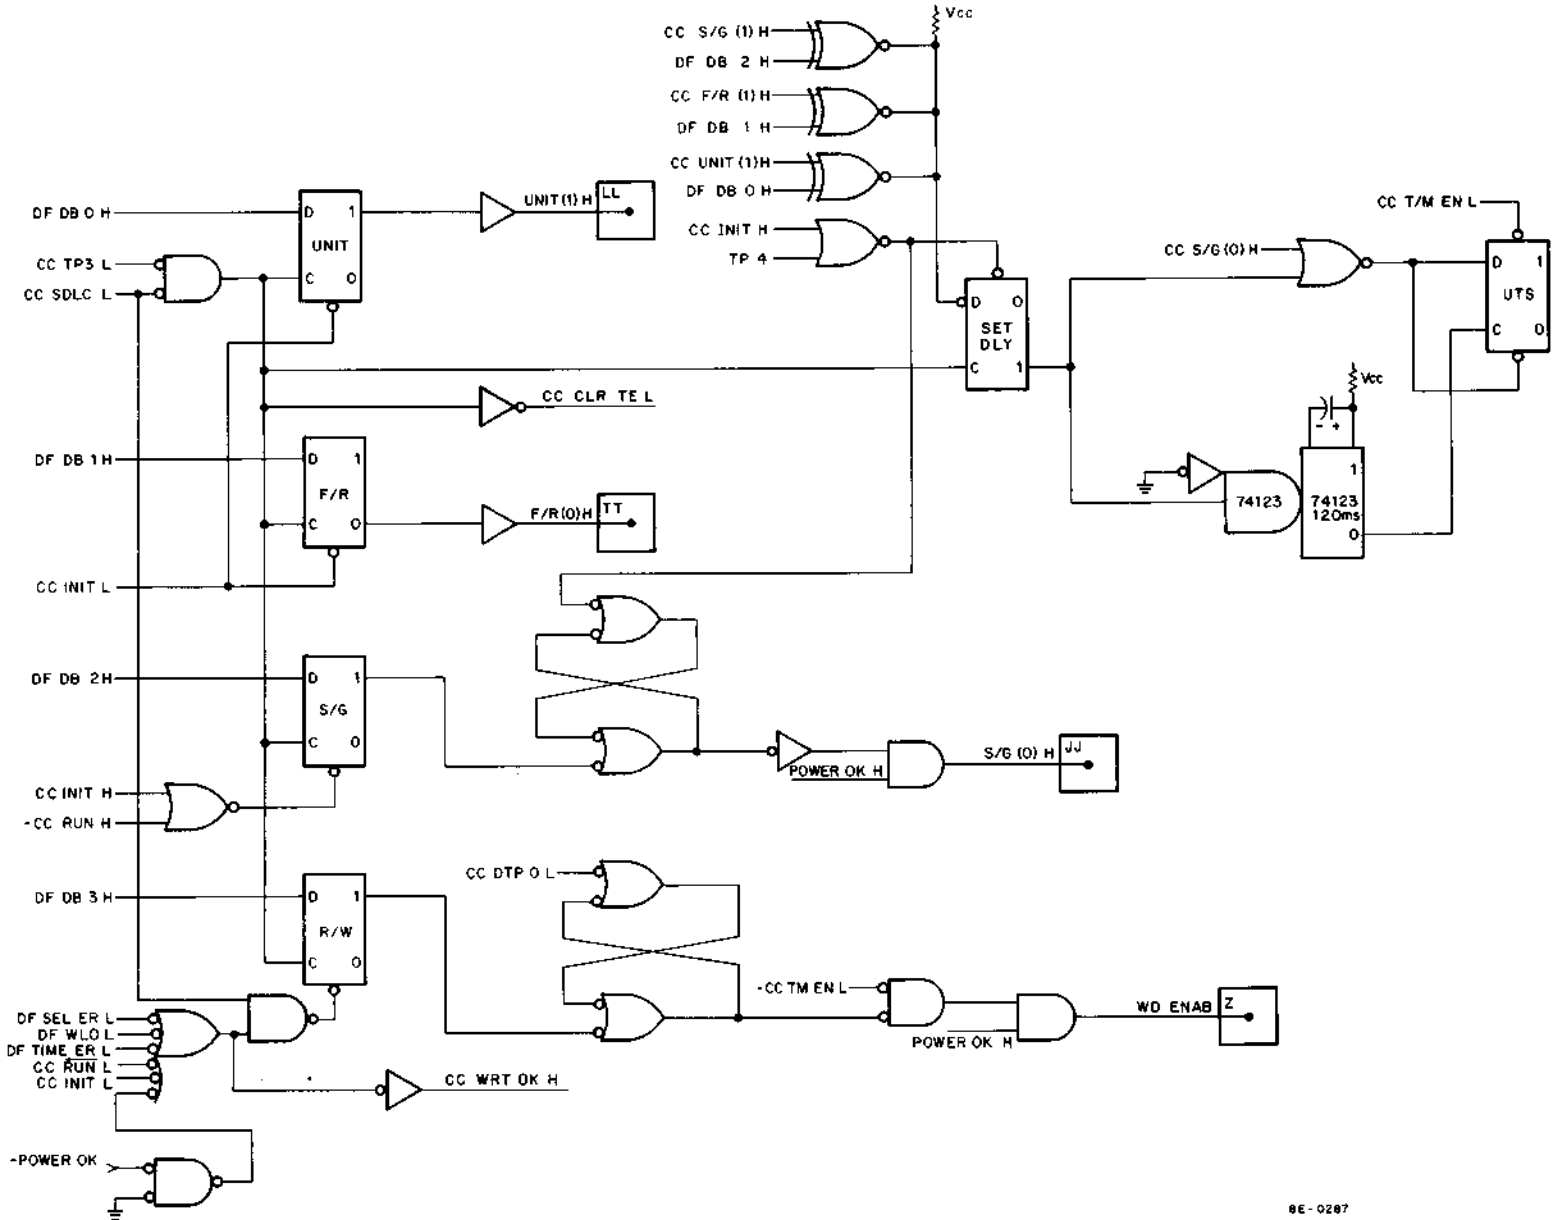
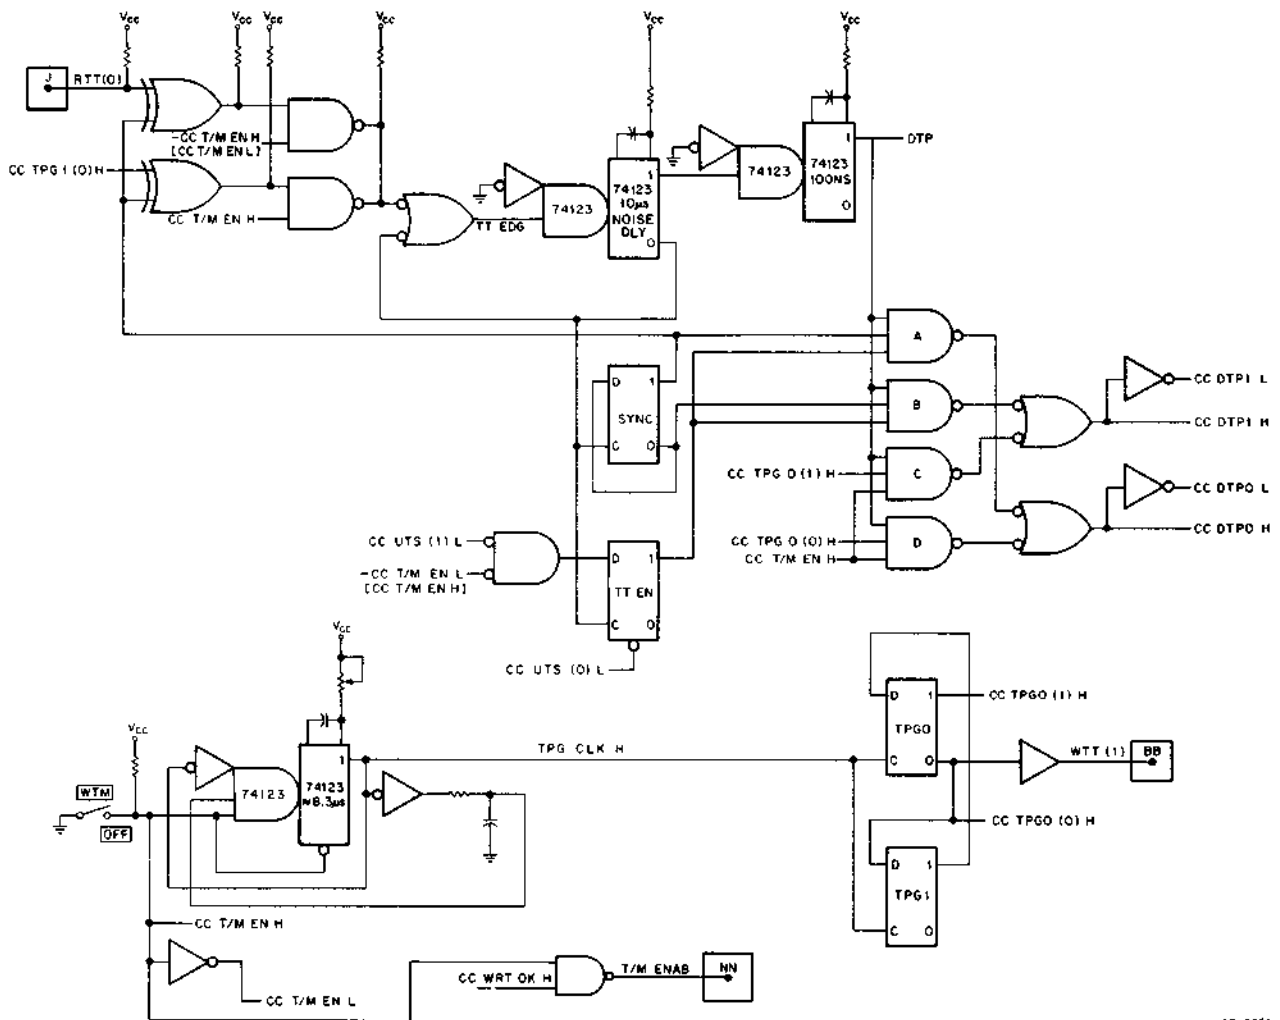

Figure 8-10 Command Register and UTS Logic
Figure 8-11 Time Pulse Generator Logic
The Command Register (Figure 8-10) consists of the UNIT, Forward/Reverse (F/R), Stop/Go (S/G) and Read/Write (R/W) flip-flops. The flip-flops in the Command Register are set or cleared by AC 0–3 when the Command Register is loaded by the SDLC instruction (Paragraph 8.5.2).
The F/R flip-flop (Figure 8-10) determines the direction of tape movement. When an SDLC instruction is performed and bit 1 from the AC is a 1, the F/R flip-flop sets and directs the tape drive to move backward. If the data input is 0 (bit 1 from the AC is 0) F/R clears when the SDLC instruction and TP3 are applied to the clock (C) input, and the drive is directed to move forward.
The Read/Write flip-flop (R/W) (Figure 8-10) selects the read or write mode in the TU56M. If bit 3 from the AC is a 0 when the SDLC instruction is executed, R/W will clear and the TU56M will not write on the tape. If bit 3 is 1 when the SDLC instruction is executed, R/W sets, and its output is applied to the reset input of a latch. D TP0 is applied to the set input of the latch. When D TP0 is received from the Time Pulse Generator, the outputs of the latch will be low if R/W is set. The latch output is ANDed with NOT CC T/M EN, which enables the gate when S1 is set to OFF (Figure 8-11). The output of the first gate is ANDed with POWER OK H to generate WD ENAB, causing the TU56M to write on the DECTape. WD ENAB is ANDed with POWER OK to remove WD ENAB from the TU56M during a power down of the system. R/W is also cleared by any of the following conditions to select read mode and remove WD ENAB from the TU56M.
The UTS delay logic starts a 120-ms delay after S/G is set, to ensure the tape is up to speed before data is read from or written on the DECTape (Figure 8-10). Any change in the Command Register, except R/W, clears the UTS flip-flop and starts a new 120-ms timeout. The D input of SET DLY is enabled by the Exclusive-OR gates which cause SET DLY to set if the UNIT, S/G, or F/R flip-flops are changed, thus clearing UTS and starting another 120-ms delay. The following conditions set the SET DLY flip-flop clearing UTS:
If SET DLY is set, the 74123 IC is triggered and starts a new 120-ms timeout. After 120 ms, if no new changes are made in the Command Register, the clock input of the UTS flip-flop goes high. This transition causes UTS to set if S/G is set supplying a true (high) to the D-input. UTS will not set if the S/G flip-flop is cleared. Any time UTS is cleared the TT ENABLE flip-flop (Figure 8-11) will clear and disable the Time Pulse Generator logic. The SET DLY flip-flop is cleared by TP4 of each CC SDLC instruction that changes the Command Register. This is to ensure that the 120 ms (74123) can trigger on each CC SDLC and the only timeout is 120 ms after the last SDLC.
The Time Pulse Generator (Figure 8-11) has two functions, one is to produce pulses to write the time and mark tracks (formatting) and the other is to produce timing pulses from the time track signal (RTT) to allow reading and writing of data. The WTT signal, a 33.2- $\mu$ s square wave, is written on the time track of the DECTape when the tape is formatted. The Time Pulse Generator reads the RTT signal from the timing track of the tape when data is read from the tape or written on the tape. Full- and half-cycle pulses (Figure 8-5, signals DTP, DTP0, and DTP1) are produced on the rising and falling edges of the time track signal. The time pulses are synchronized with the UTS flip-flops so pulses will be produced only when the tape is up to speed.
The 74123 used to generate TPG CLK H is a retriggerable monostable multivibrator (one shot) that is set for  $8.3 \mu\text{s}$ . External circuitry causes this one shot to retrigger itself on its own trailing edge. An inverter and integrator on the output of the 74123 IC delays the triggering process for 100 ns, establishing a minimum width for TPG CLK H. TPG 0 and TPG 1 produce overlapping  $33.2\text{-}\mu\text{s}$  square wave pulses (Figure 8-5). The leading edge of TPG 0 occurs  $8.3 \mu\text{s}$  before the leading edge of TPG 1. The 0 output of TPG 0 is applied to the time track (WTT) signal. The outputs of TPG 0 and TPG 1 are also used to produce DTP0 and DTP1 when writing the time and mark tracks. Gates C and D (Figure 8-11) must be enabled to apply these signals to the control logic to allow writing on the time and mark track. CC T/M EN H is applied to C and D when S1 is set to WTM during a write operation and CC TPG 0 (1) H or CC TPG 0 (0) H are applied to the gates during a write. The source of the DTP signal is explained below.
Most signals in the Time Pulse Generator (Figure 8-11) are gated against CC TM EN. This is done to ensure the logic required for writing the time and mark tracks is enabled only for that operation and the logic to read and write data is gated off. The reverse is true when reading the time track and transferring data.
The RTT signal read from the time track is used to produce time pulses (Figures 8-11 and 8-12) which allow data to be transferred to or from the DECTape. To supply time pulses (CC DTP0 and CC DTP1) AND gates A and B must be enabled by DTP, SYNC, and TT EN. TT EN is set by the first falling edge of NOISE DLY after UTS is set. This ensures that time pulses are not produced while the tape is getting up to speed. TT EN is cleared by the loss of the UTS signal.
Thus, the time pulses are produced to shift in the data, set the flags, set WD ENAB (Figure 8-10) and shift the data out for writing, etc.